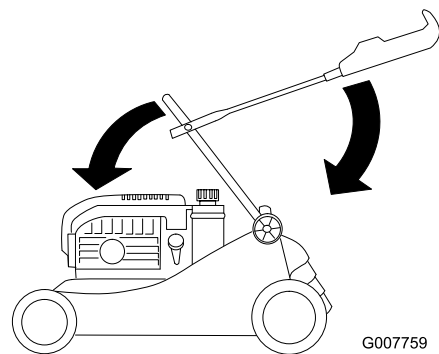

Figure 37
3. Carefully swing the lower handle section forward until it rests on the engine (Figure 37).
4. Carefully swing the upper handle section rearward until it rests flat (Figure 37).